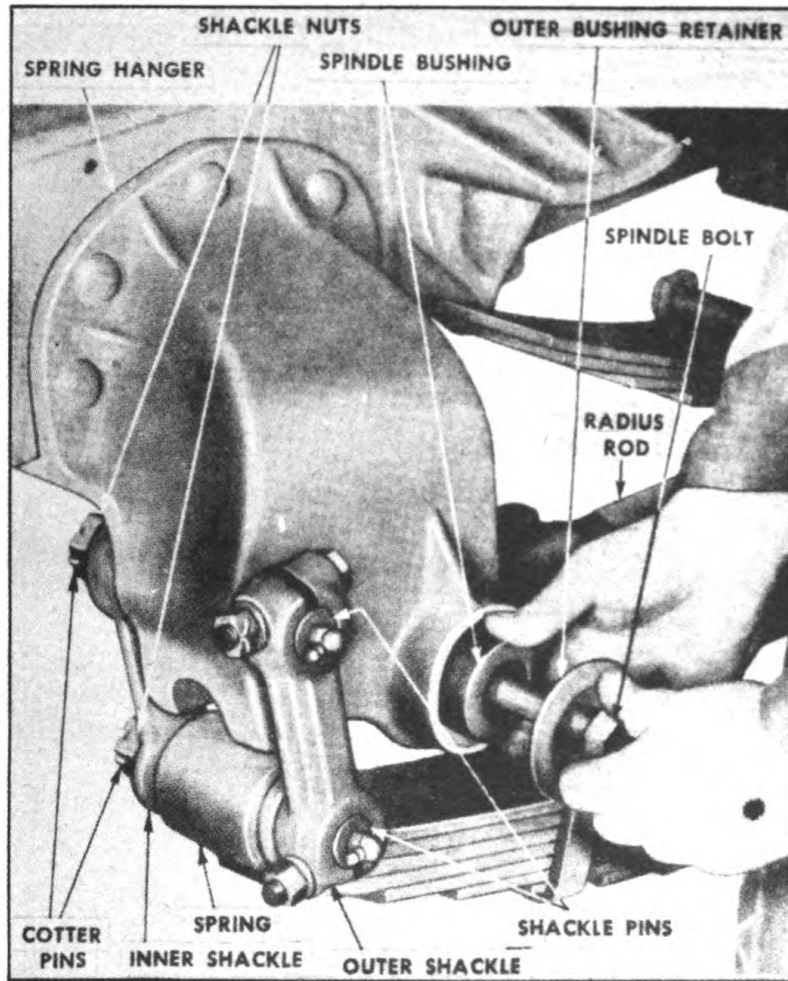

FIGURE 54. REMOVING SPRING HANGER
5. **SPRING HANGERS (Figure 54).**—*a.* NOTE: When replacing spring hangers or auxiliary spring brackets disconnect converter gear from semi-trailer.
c. **Removal, front hanger (Figure 54).**—(1) Remove outer and inner wheels on both sides. With wheels removed the hanger is much more easily worked on, especially when rivets are being driven.
(2) Turn gear over and rest it on three horses, two at rear lengthwise and one at front crosswise of frame.
(3) Disconnect radius rod at front end only (Figure 54).